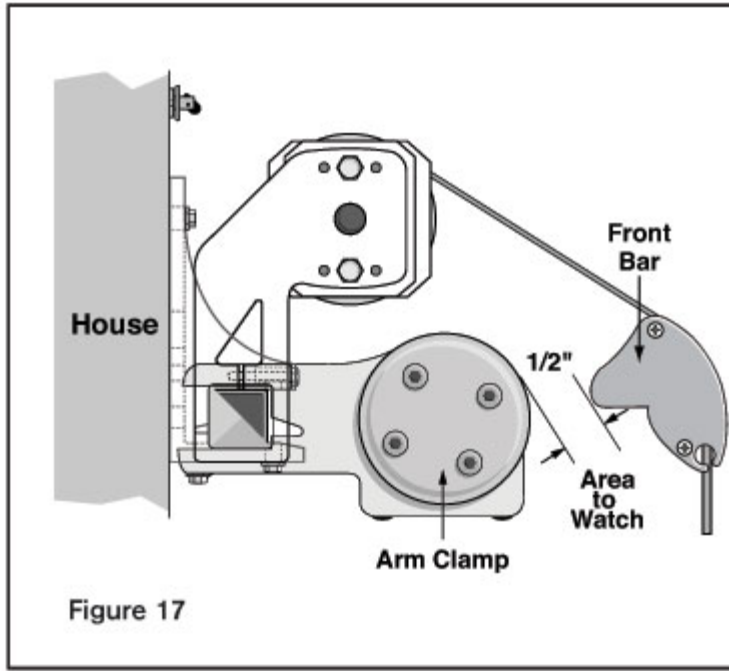

Figure 17
20. Manually roll the awning up until it is almost completely closed. The area to watch is where the front bar almost touches the round side of the arm clamp - see figure 17. Leave about 1/2" gap between the front bar and the round side of the arm clamp.